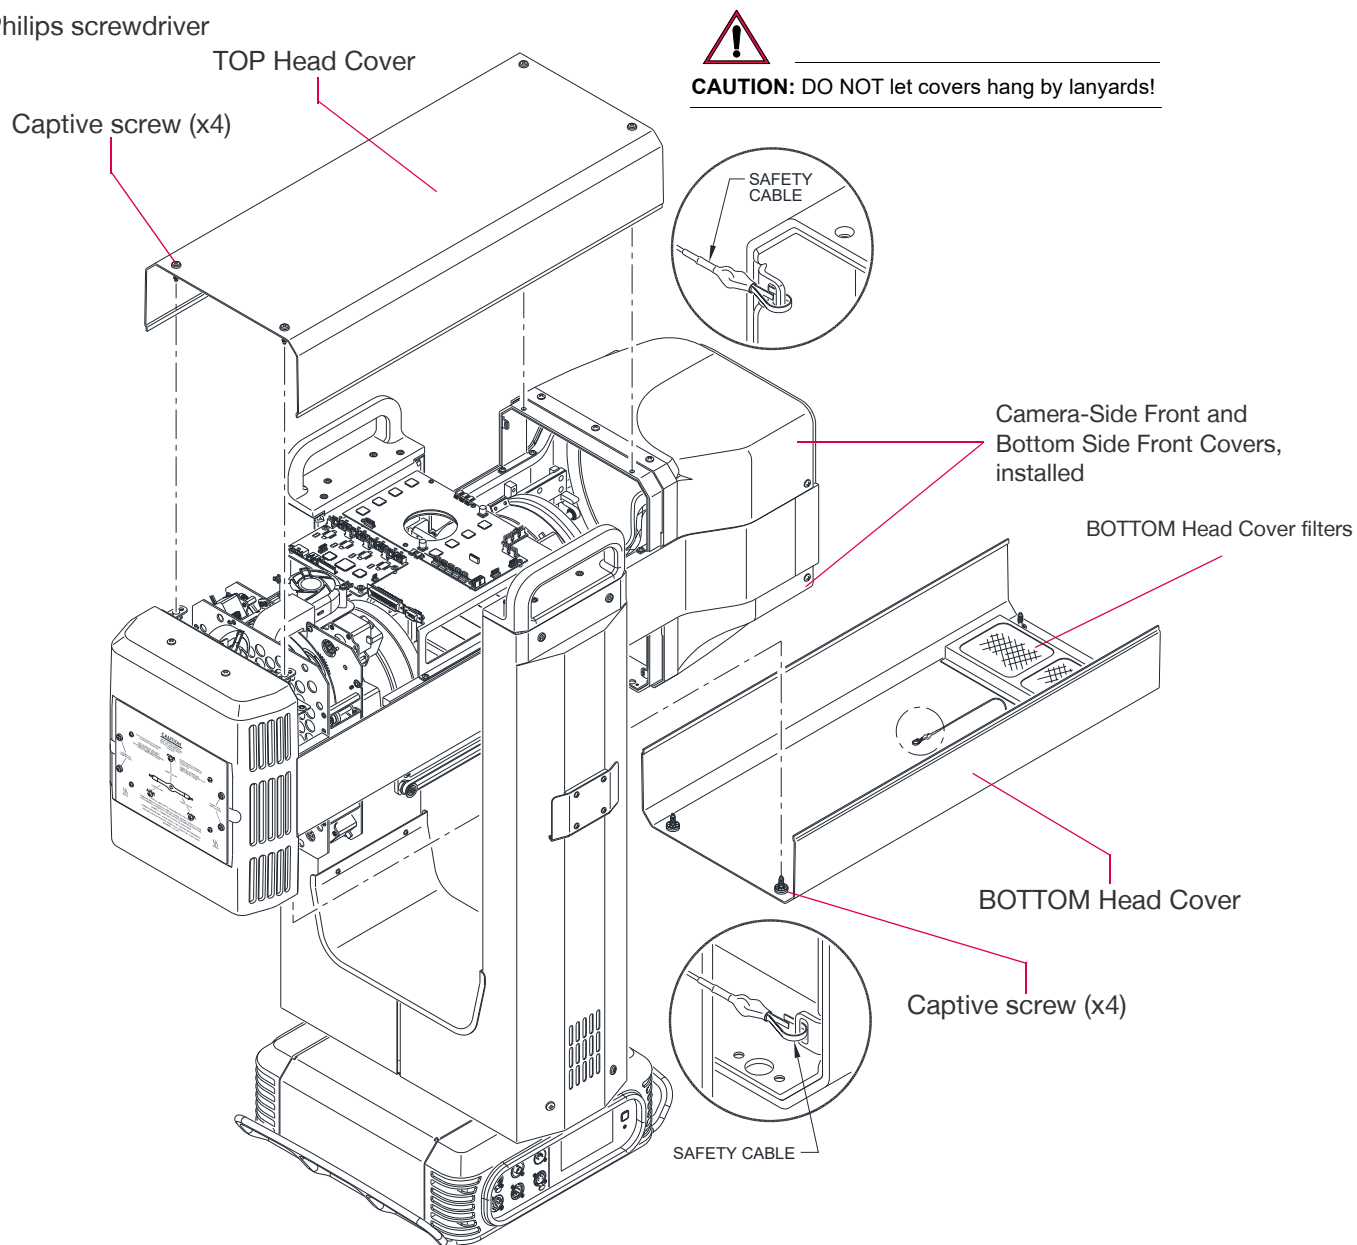

Figure 3-2: Removing Top and Bottom Head Covers
- Step 1. At Top Head Cover, loosen four captive screws (**Figure 3-2**).
- Step 3. At Bottom Head Cover, loosen four captive screws (**Figure 3-2**).